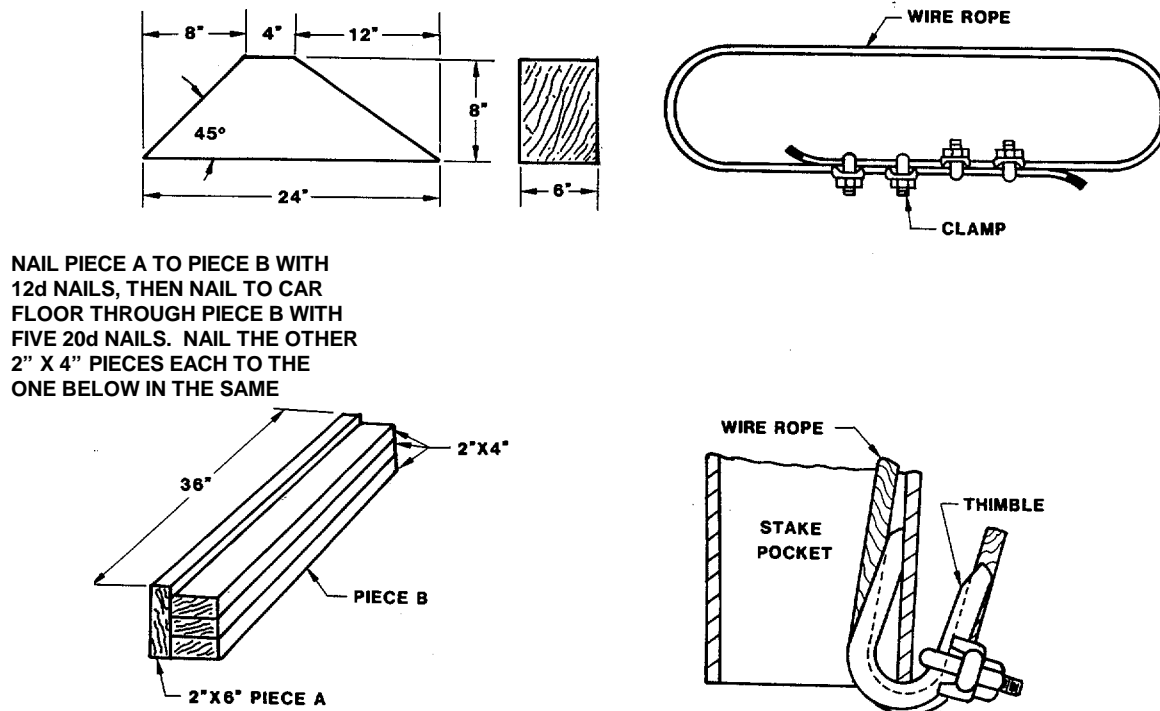

Figure 7-3. Blocking, bracing and tiedown material for standard flatcar.
(1) *Step 1.* Fabricate eight wheel blocks in accordance with block pattern 16 in figure 7-3. Locate the 45-degree end of the blocks against the front and rear of each wheel. Nail the heel of blocks to the railcar floor with three 40d nails. Toenail ends touching the tires to the railcar floor with two 40d nails.
(2) *Step 2.* Fabricate four tire sidewall blocks in accordance with blocking pattern 89 in figure 7-3. Place cushioning material between tire and sidewall block and between railcar floor and sidewall block. Follow the instruction in figure 7-3 for nailing sidewall blocks to railcar.
(2) *Step 2.* Install wire rope tiedowns to tiedown shackles and to the stake pockets. Use metal filler or thimbles sufficient to provide a suitable radius to protect the wire rope at the stake pockets and at the vehicle tiedown shackles. Use clamp to prevent dislodgement, as shown in figure 7-3. Install cable clamps as shown in figure 7-3. Manually tighten wire rope U-bolt clamp nuts to 65 foot-pounds. Make wire rope as tight as possible. Once installed, remove come-along. Repeat steps 1 and 2 for the remaining three corners.